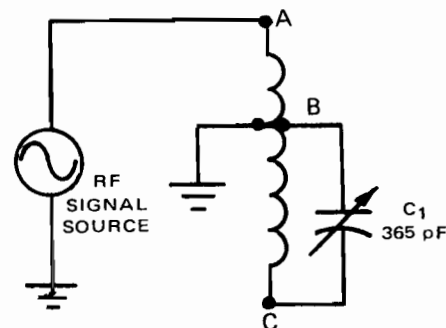

Fig. 20-2-1
1. Remove ferrite antenna coil from storage cabinet and position it on circuit construction board. With a VOM, measure resistance of coil to locate center or tapped connection. Position coil as indicated in Fig. 20-2-1 with low resistance winding at the top.